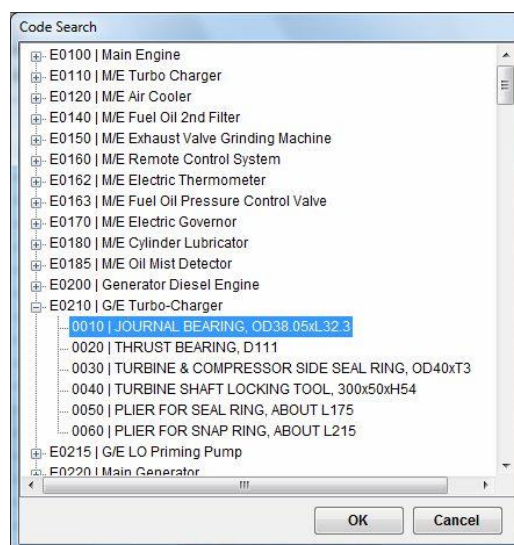

図 17.2 Code Search
2. Click [+]mark of equipment and select target spare parts data (図. 17-2).